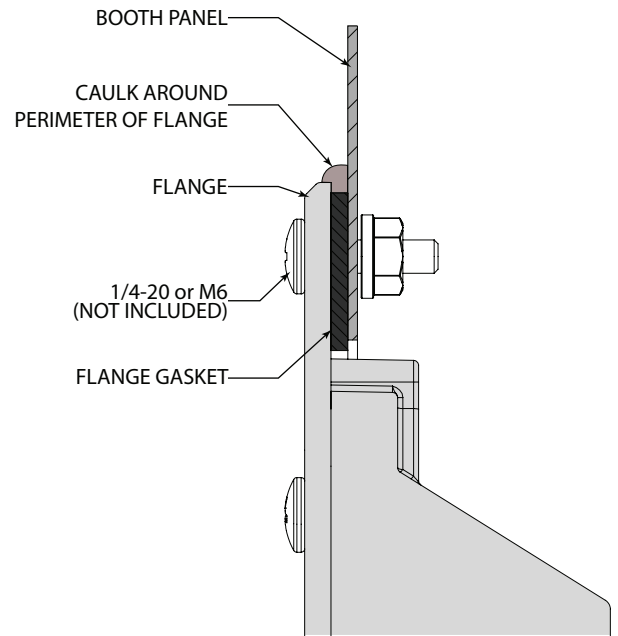

Fig. 3
3. From inside the booth, caulk around the flange perimeter any areas where the fixture mates with the panel. Use silicone-free caulk. See Fig. 3 for details.